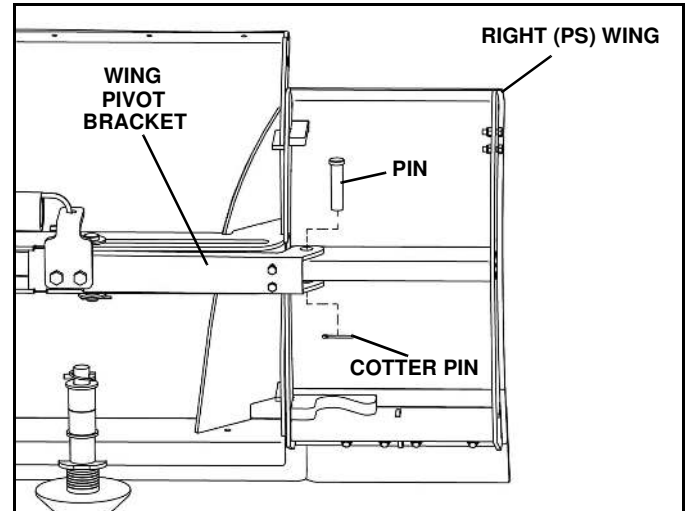

Figure 1-8
2. Install the wing pivot bracket to the wing and secure with a clevis pin and 5/32" x 1-1/2" cotter pin. (See Figure 1-8)